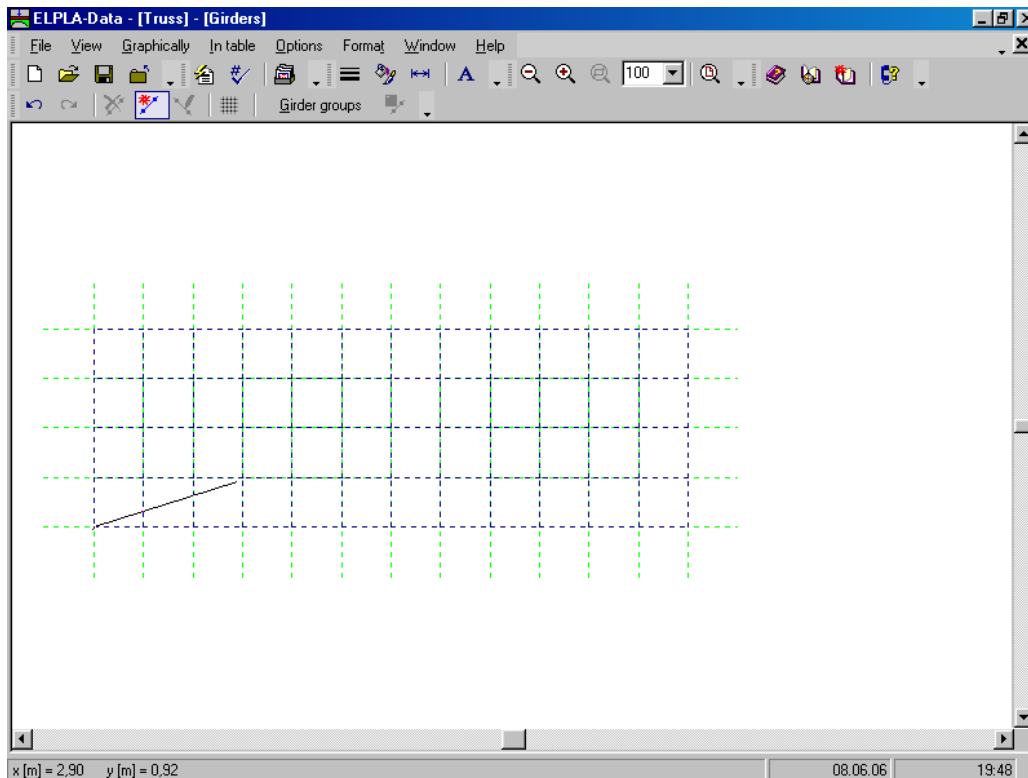
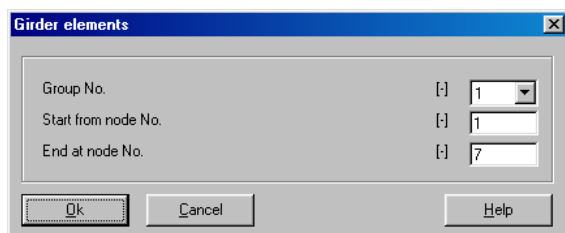

Figure 6-14 Add girder by mouse
Figure 6-15 "Girder elements" dialog box
- Click the left mouse button on the start node of the first girder and drag the mouse until the end node of that girder (Figure 6-14). Then, click on the end node. The "Girder elements" dialog box in Figure 6-15 appears